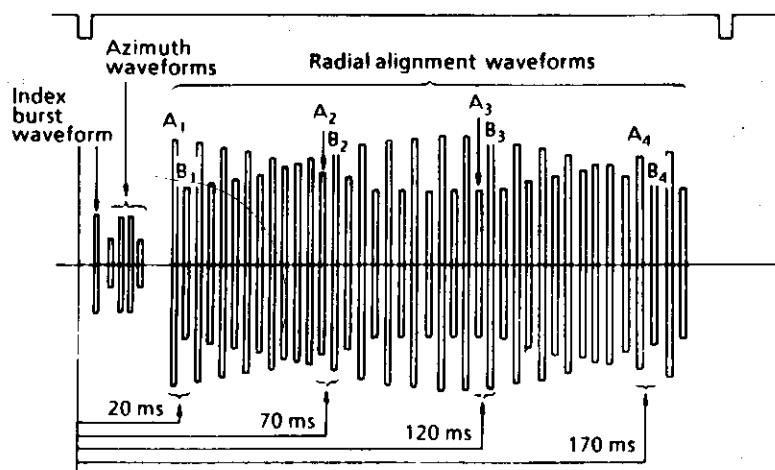

Fig. 5.3 Alignment Waveform (DAD)
(4) Watch the output waveforms for sides 0 and 1. They should appear as shown in Fig. 5.3.
(5) Measure the timing levels A1 to A4 and B1 to B4 in Fig. 5.3., and calculate the lobe ratio from the following formulas.